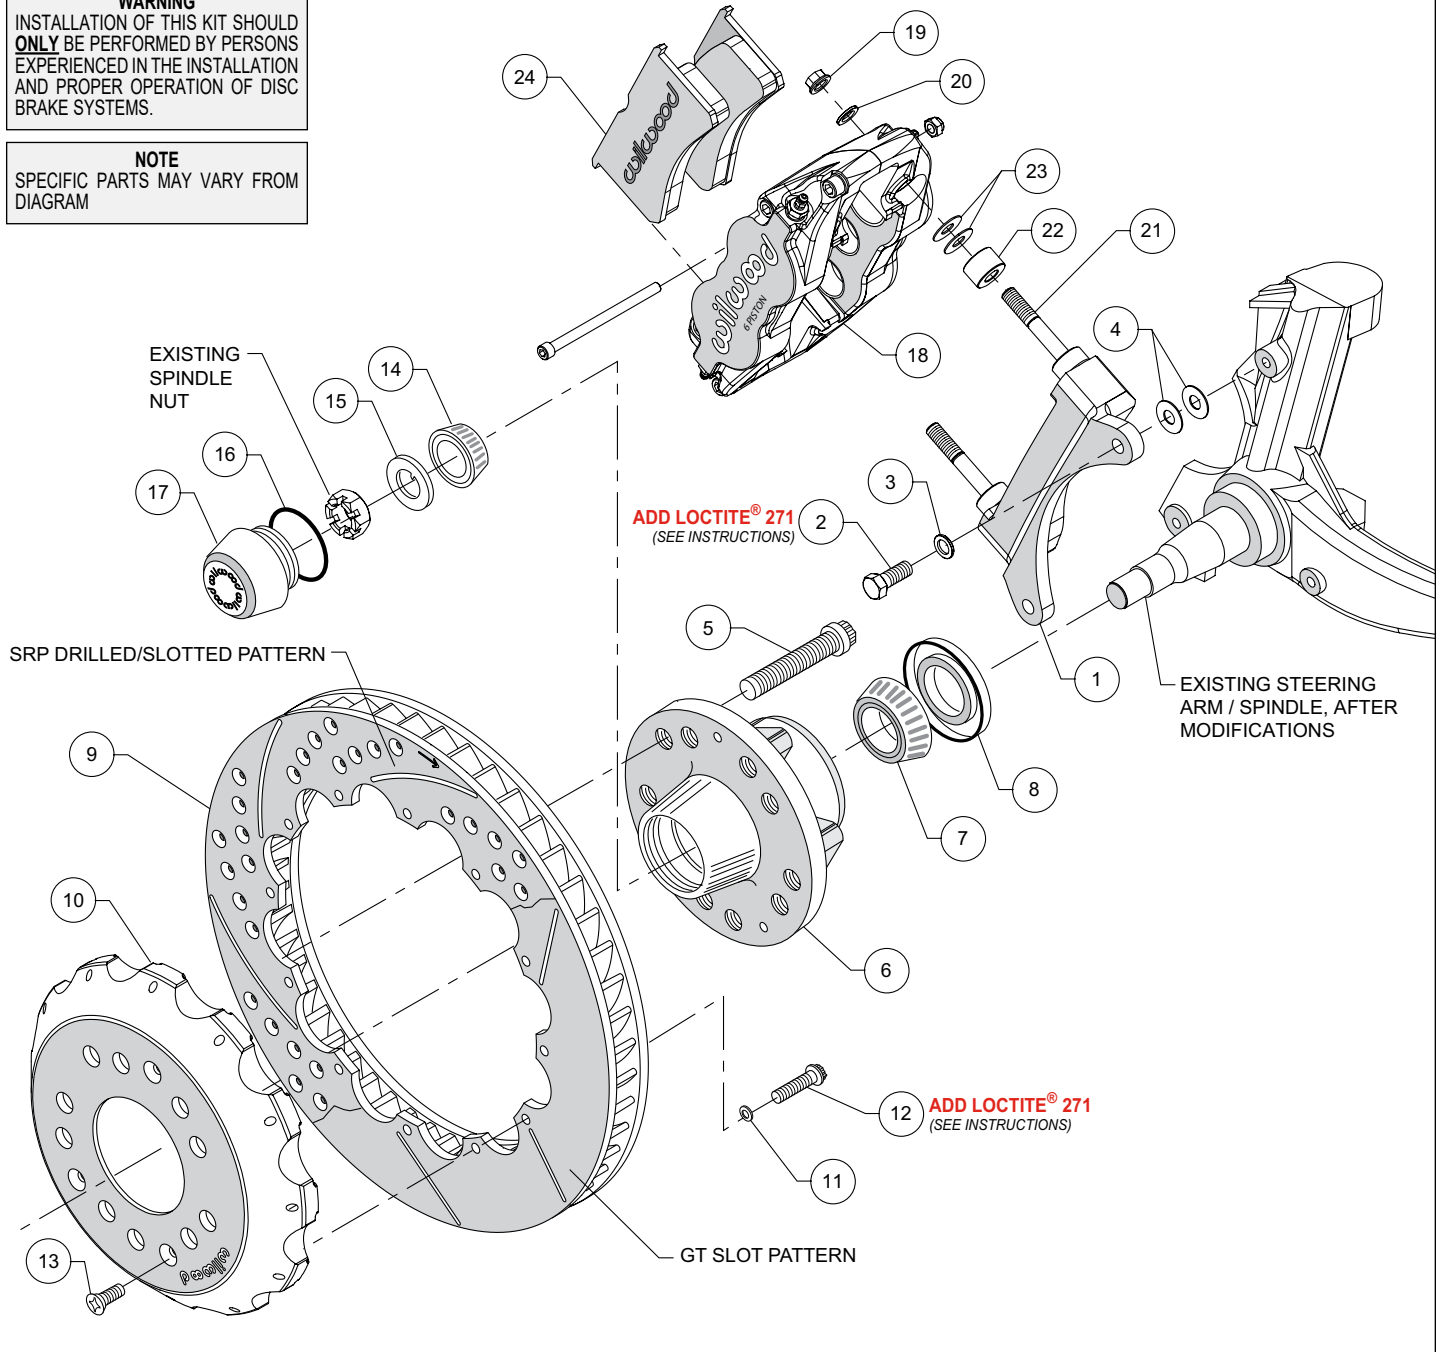
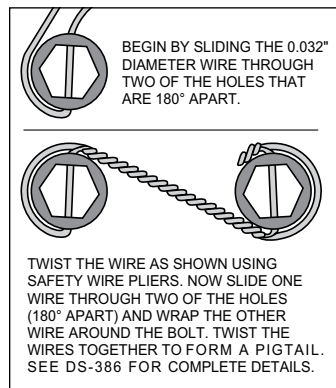

Figure 2. Typical Installation Configuration
Figure 4. Safety Wire Diagram
NOTE: Numbers in parenthesis refer to the parts list and Figure 2 on the preceding pages.
- The caliper mount bracket (1) should initially be installed with clean, dry threads on the mounting bolts. Orient the bracket as shown in Figure 2 and Photo 1, and install using bolts (2) and washers (3). Initially place two .035" thick shims (4) on each bolt between the bracket and upright, Figure 2. Temporarily tighten the mounting bolts. **NOTE:** The bracket must fit squarely against the mounting points on the spindle. Inspect for interference from casting irregularities, machining ridges, burrs, etc. Later, after the caliper alignment has been checked, the mount bolts will be secured using red *Loctite*® 271.
- Install wheel studs (5) into the hub (6), Photo 2. Torque to 77 ft-lb. **NOTE:** There are two five lug patterns in the hub (5 x 4.50 and 5 x 4.75). Ensure the correct hub stud pattern is being used to fit the wheel application.
- Pack the large inner bearing cone (7) with high temperature disc brake bearing grease (available from your local auto parts store) and install into the backside of the hub (6), Photo 3.
- Install the grease seal (8) by pressing into the backside of the hub (6), flush with the end of the hub, Photo 3.
- Orient the rotor (9) and the hat (10) as shown in Figure 2 and Photo 4. Attach rotor to hat using bolts (12) and washers (11). Apply red *Loctite*® 271 to the bolt threads and torque to 155 in-lb using a criss-cross pattern. For an added measure of security, the bolts may be safety wired using standard 0.032 inch diameter stainless steel safety wire as shown in Figure 4. Refer to Wilwood's data sheet DS-386 (available at www.wilwood.com/Pdf/DataSheets/ds386.pdf) for complete safety wire installation instructions.
- Pack the small outer bearing cone (14) with high temperature disc brake bearing grease and install into hub (6). Slide the hub assembly onto the spindle. Secure using spindle washer (15) and OEM spindle nut, Photo 5. Adjust bearings per OEM specifications. Install saved OEM nut lock (if any) and a new cotter pin (not included).
- Screw dust cap (17) into hub (6), Photo 6. Friction created by the o-ring (16) on the dust cap keeps it from unscrewing. **NOTE:** The O.D. of the existing OEM spindle washer may be larger than the I.D. of the dust cap not allowing it to seat against the hub face. Therefore, use the spindle washer (15) supplied with the kit instead of the OEM washer.
- Slide the hat/rotor assembly (9/10) onto the hub (6) taking care to align the small countersunk holes in the hat (10) with the small threaded holes in the hub. **NOTE:** The hat must fit flush against
- NOTE:** This kit contains distinct right and left hand calipers that must be mounted in a specific direction, as described below. Initially place two .035" thick shims (23) and one spacer (22) on each stud (21) between the caliper and the bracket, as shown in Figure 2 and Photo 7. Mount the caliper (18) onto the bracket (1)
using lock nuts (19) and washers (20), Figure 2. Ensure that the caliper is mounted so the largest pistons are at the rotor exit end of the caliper, in relation to the direction of rotor rotation. Temporarily tighten the lock nuts and view the rotor through the top opening of the caliper. The rotor should be centered in the caliper, Photo 8. If not, adjust by adding or subtracting shims (4) between the bracket and the spindle. Always use the same amount of shims on each of the two mounting bolts. Once the caliper alignment is correct, remove the bracket mounting bolts one at a time, apply red *Loctite*® 271 to the threads, and torque to 40 ft-lb.